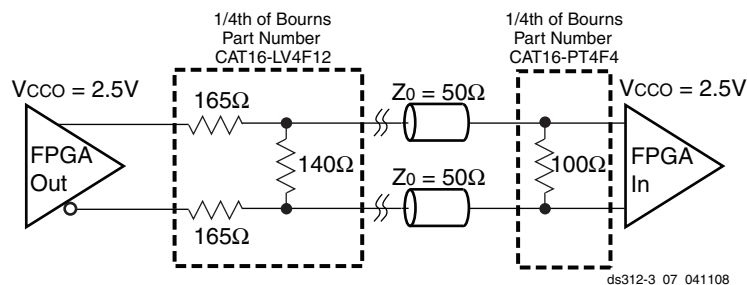

Figure 72: External Termination Resistors for BLVDS Transmitter and BLVDS Receiver
2. Output voltage measurements for all differential standards are made with a termination resistor (R_T) of 100Ω across the N and P pins of the differential signal pair. The exception is for BLVDS, shown in Figure 72 below.